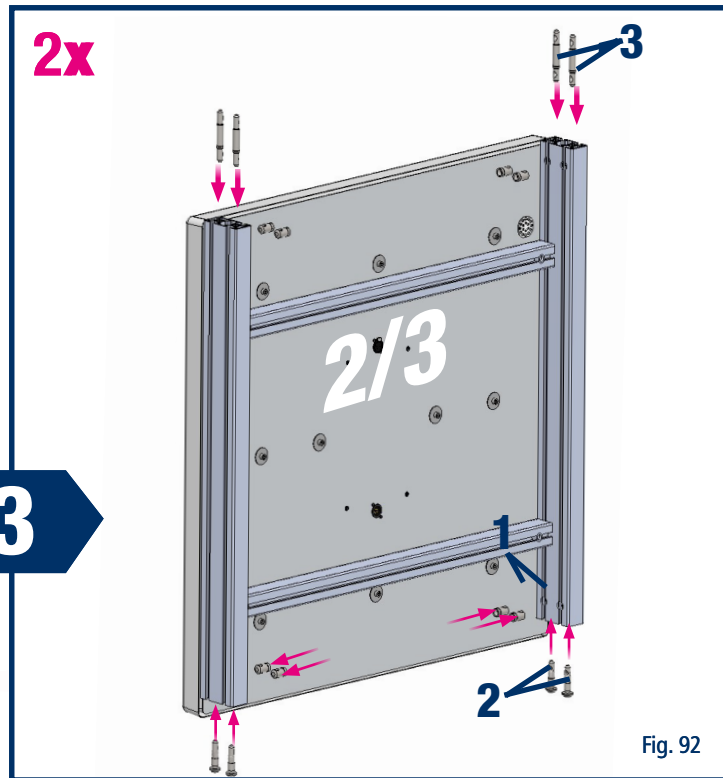

Fig. 92
Note: The anchors and cross-pieces (Fig. 92, item 1/2) are pre-assembled on the profile ends with overhanging panel (panel and profile are not fitted flush).
Insert 4 extension connectors (Fig. 92, item 3) and cross-pieces on the top profile ends of each of the modules item 2/3.